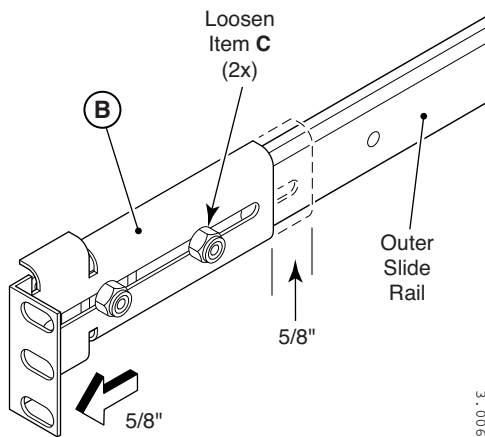

FIGURE 9 Repositioning the L-bracket
1. On the port side of the outer slide rail, loosen the nuts (Item C) securing the L-bracket (Item B) and extend the end of the bracket beyond the end of the slide rail by 5/8 inch (Figure 9).